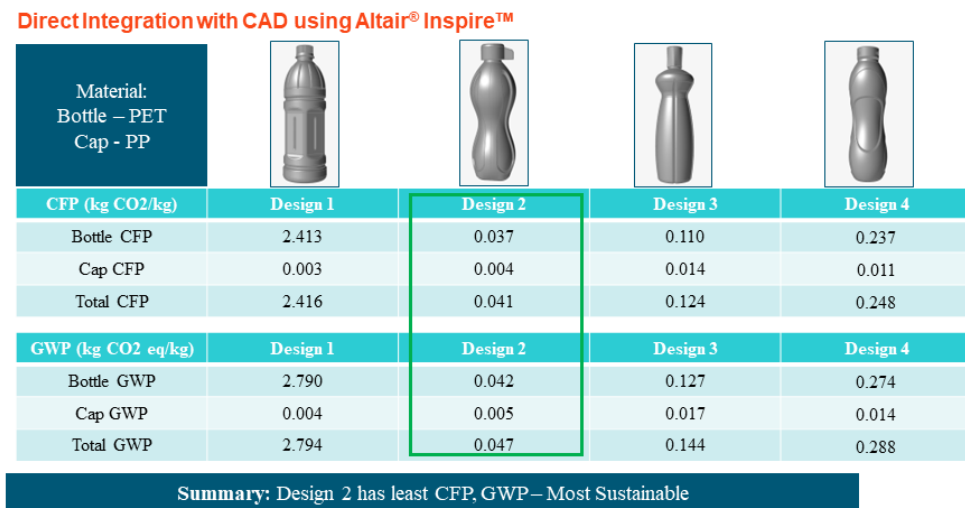

Figure 7 - Sustainability-Driven Design Study
A sustainability-driven design study focuses on identifying the most environmentally friendly design by calculating and analyzing the carbon footprint of various design alternatives. One final use case demonstrates a sustainability-driven design study examining four variants of a plastic bottle (Figure 7). Using the same methods seen in the previous examples, designs are compared based on carbon footprint and global warming potential while keeping materials consistent. In this case, polyethylene terephthalate (PET) is assigned to the body of the bottle and polypropylene (PP) for the cap. After the data is automatically generated, it's determined that Design 2 is the most sustainable bottle design since it has the smallest carbon footprint (total CFP 0.041 kg CO₂/kg) and lowest global warming potential (total 0.047 kg CO₂ eq/kg). This type of analysis can give organizations confidence in their sustainability analyses as they move forward in their manufacturing processes.